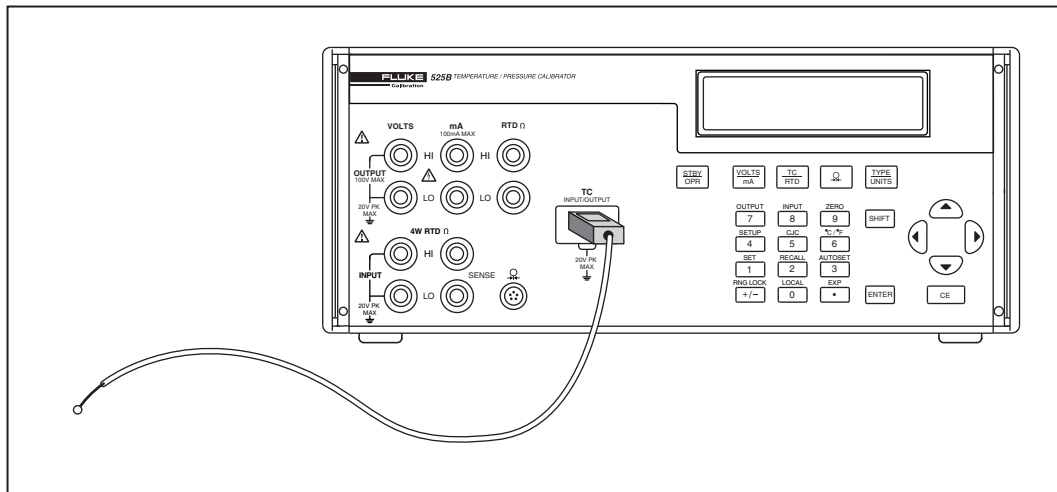

Figure 2-1. Connection to Simulate Thermocouple Temperature
Connect the Calibrator TC input/output to the unit under test (UUT) with thermocouple wire and the appropriate thermocouple mini-connector. Supported TC types are listed in Chapter 7. Figure 2-1 shows this connection.
1. Attach the thermocouple extension wire as shown in Figure 2-1. One pin is wider than the other. Do not try to force a miniplug in the wrong polarization.